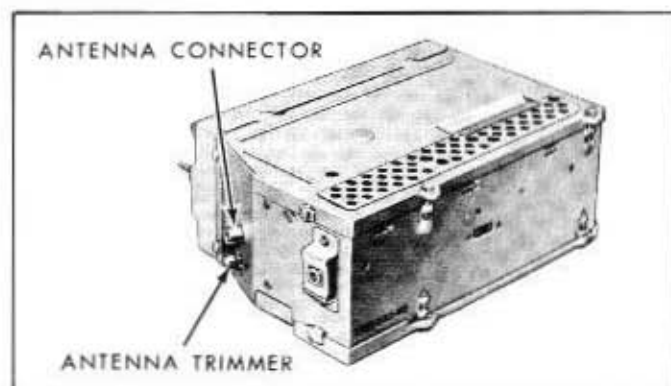

Fig. 12-1—Antenna Trimmer Adjustment—(60C-7826)
2. Turn the antenna trimmer knob slowly in either direction until a peak volume is reached. The antenna trimmer knob is located on the right side of the receiver near the antenna lead-in connection. See figure 12-1.